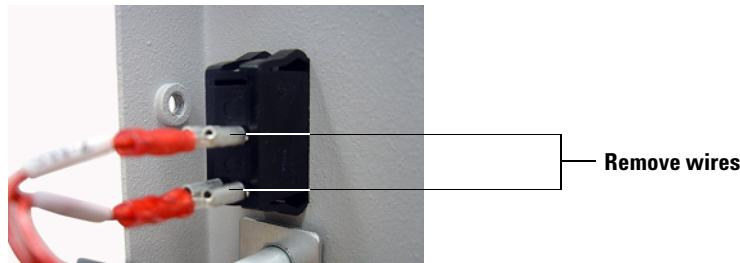

Figure 13 Wires to remove from the on/off switch.
- 2 Inside the cabinet remove the two wires **SW-1** and **SW-2** from the on/off switch. (See Figure 13.)
- 5 With the raised end of the switch at the top, push the new switch in place. (The two wiring connectors will be towards the bottom of the switch, see Figure 13.)